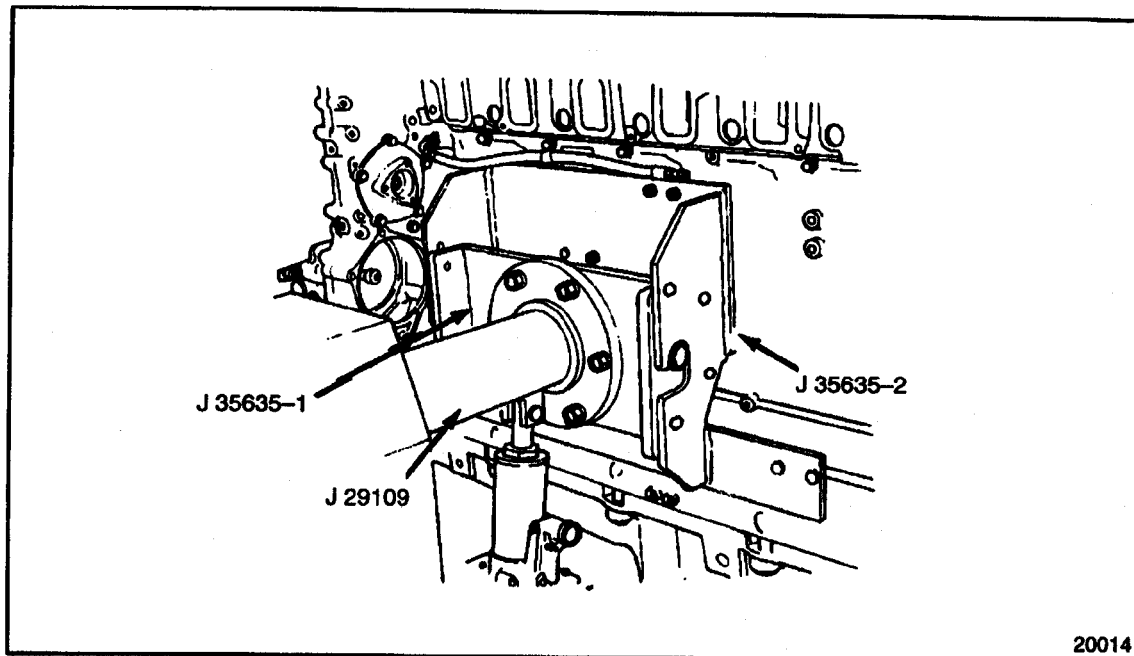

Figure 1-7 **Cylinder Block Adaptor**
20. Bolt cylinder block adaptor, J 35635-2 part of J 35635-A, to the cylinder block and mate it with the stand adaptor, J 35635-1 part of J 35635-A. See Figure 1-7.